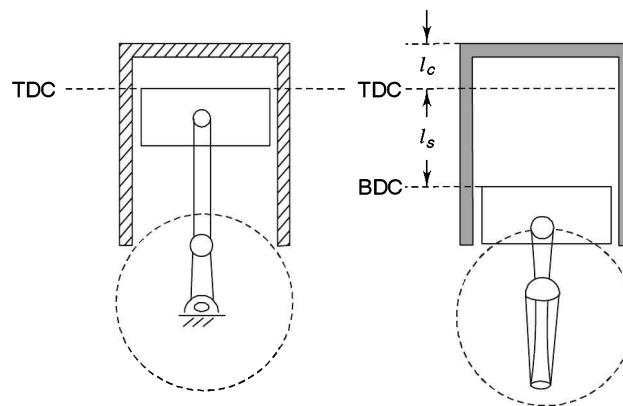

FIGURE 6.1 Piston positions in TDC and BDC.
1. **Top dead centre (TDC):** It is the highest point to which the piston can reach during a stroke (Figure 6.1).
2. **Bottom dead centre (BDC):** It is the lowest position to which the piston can reach during a stroke (Figure 6.1).